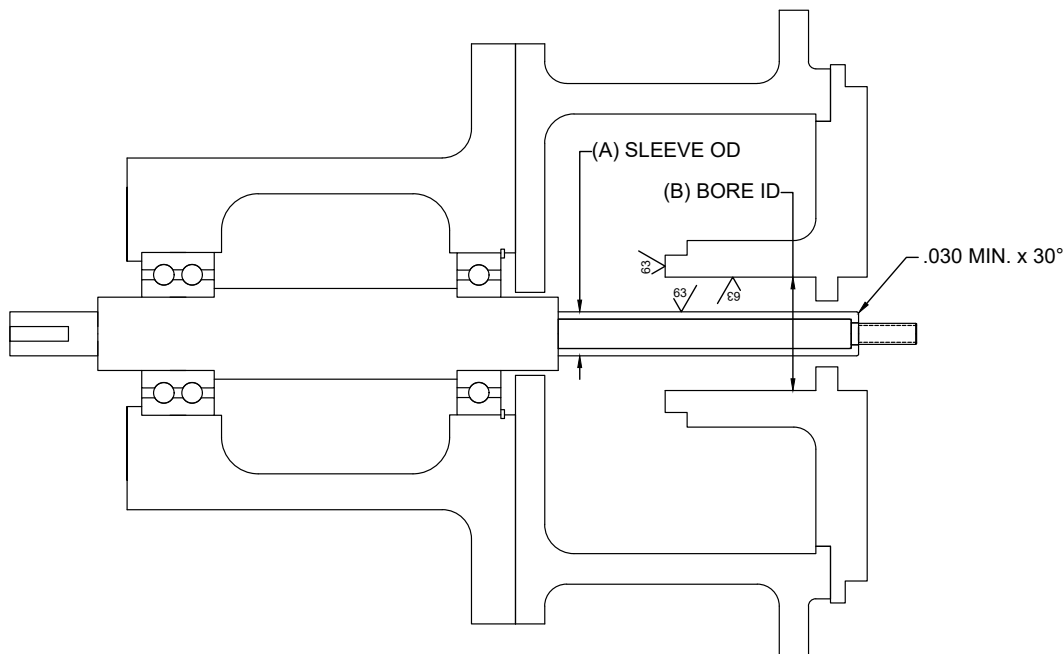

Figure 1: Surface finish and chamfer locations. Fully assembled pump without seal.
5. Sealing surfaces and the shaft or shaft sleeve must have at least a 63 Ra-μin surface finish as seen in Figure 1.
6. For ease of installation, the leading edge of the shaft or sleeve should be chamfered as shown in Figure 1 and all parts should be deburred.